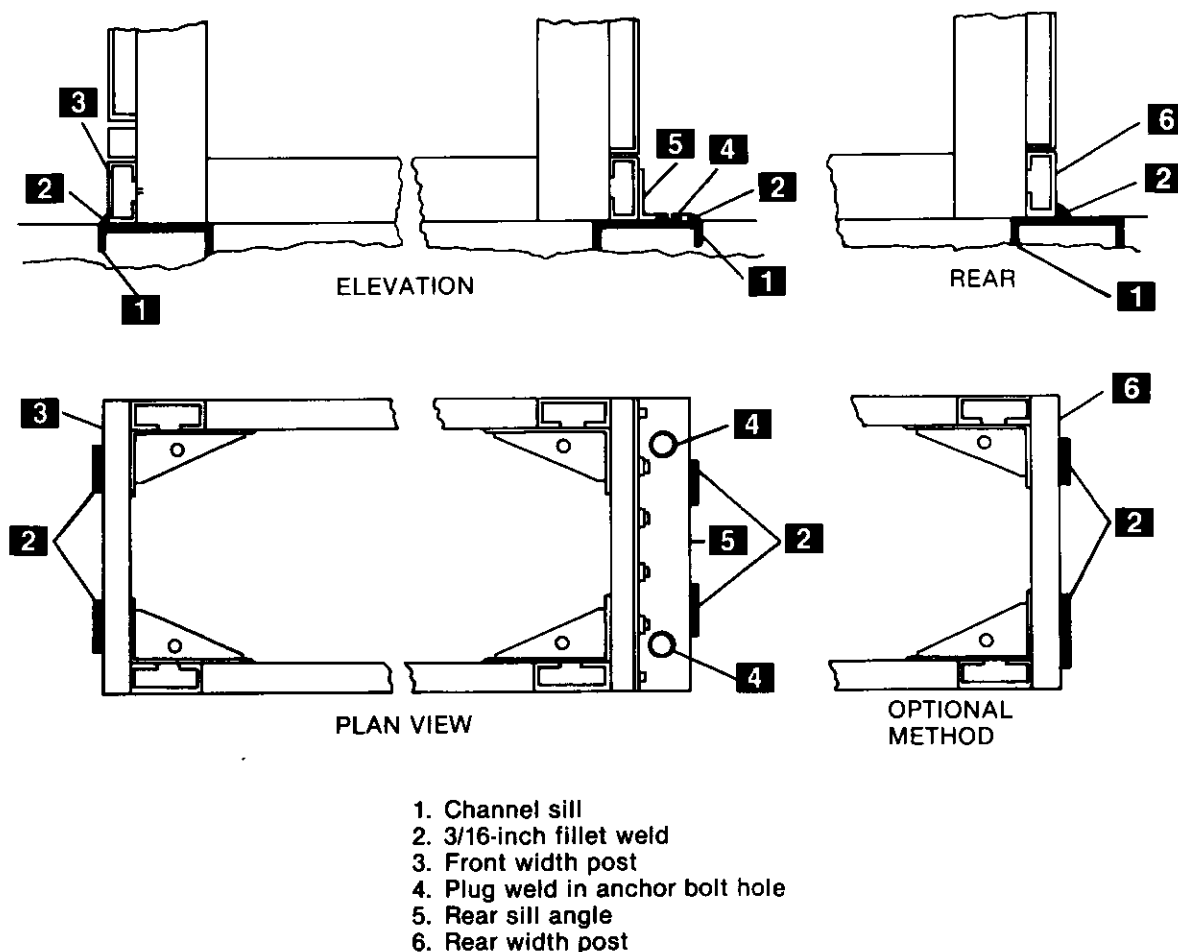

Fig. 4-22. Indoor equipment weld anchoring
2. **ANCHORING BY WELD**—An alternate method of anchoring the equipment to its foundation is to weld the equipment to floor sills (or the floor itself if constructed of steel). Several methods, shown on Fig. 4-22, are available to the purchaser for welding the equipment to the channel sills.
a. *The front of the equipment* is attached to the embedded channel sills (1), Fig. 4-22, by two $\frac{3}{16}$ -inch fillet welds (2). It is recommended that two welds, each 2½ inches long (min.), be used for each section to firmly tie the bottom width post (3) to the channel sill.
- The first method is by plug welds (4), Fig. 4-22, using the anchor bolt holes in the rear sill angle (5). The plug weld should receive a minimum $\frac{1}{8}$ -inch bead around the entire circumference of the anchor bolt hole.
- A second method of securing the rear sill angle (5) to the channel sill (1) is the use of two linear fillet welds (2) for each section. It is recommended that each weld be 2½ inches long (min.) with a $\frac{3}{16}$ -inch fillet (min.).